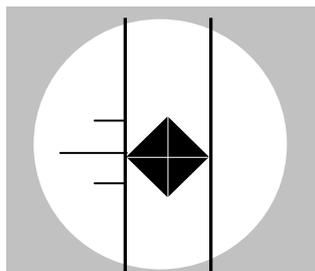

Figure 5-10 Move Right Filar Line to Right Tip
6. Turn the measuring knob to move the right-hand filar line to the right tip as Figure 5-10 illustrates.